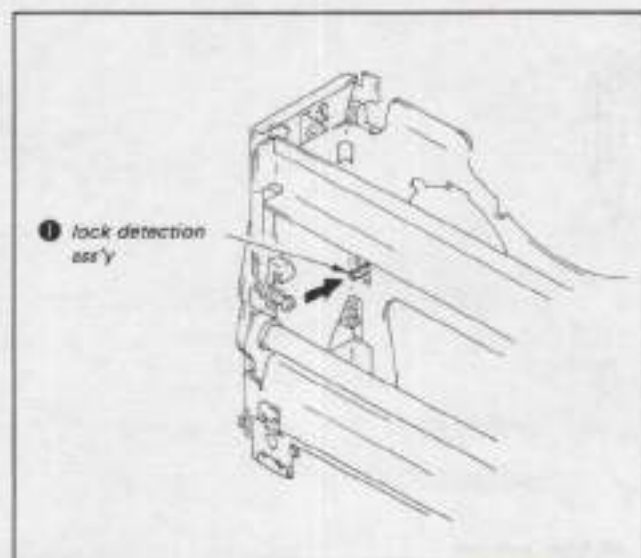

Fig. 3-6.
- 2) Press the lock detection assembly to turn it on. (See Fig. 3-6.)